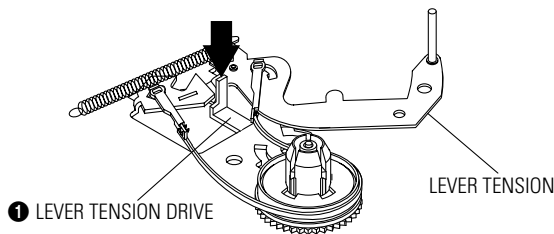

Fig. 4-14
- 2) Push the lever tension drive ① in the direction of arrow. (See Fig. 4-14)